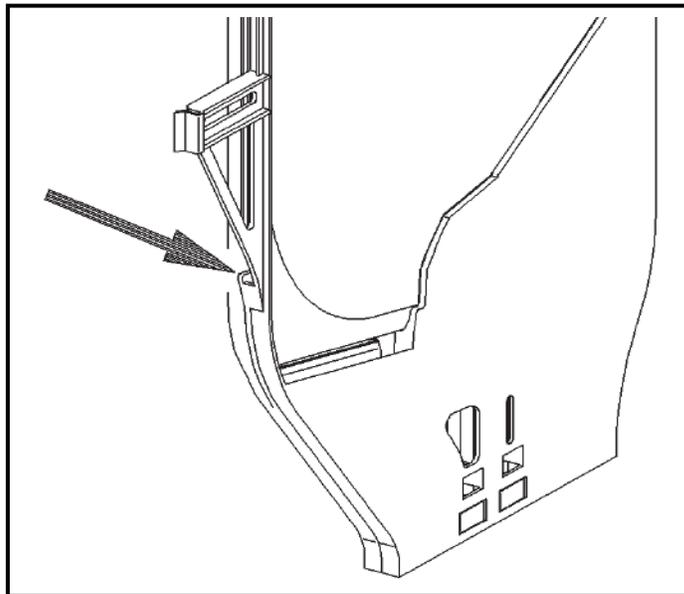

Figure 6-1: Condenser pocket
- b. Seal the opening behind the rib of the condenser with silicone sealer (for example Thermostat) see Fig. 6-1.